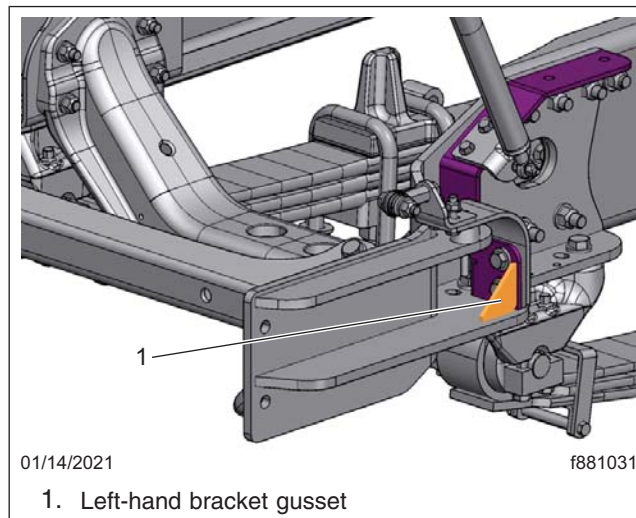

Fig. 3, Left-Hand Bracket Gusset in Place
8. Position the bracket gusset between the vertical mounting tab and the horizontal frame extension area. See Fig. 3.